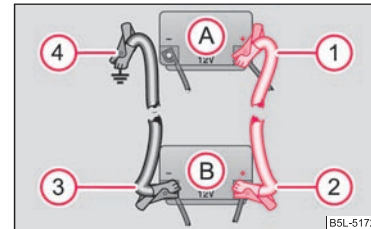

Fig. 181 Jump-starting using the battery from another vehicle: A – flat vehicle battery, B – battery providing current
- Attach one end (1) to the positive terminal ⇒ fig. 181 of the discharged battery (A).
- Attach the other end (2) to the positive terminal of the battery supplying the power (B).